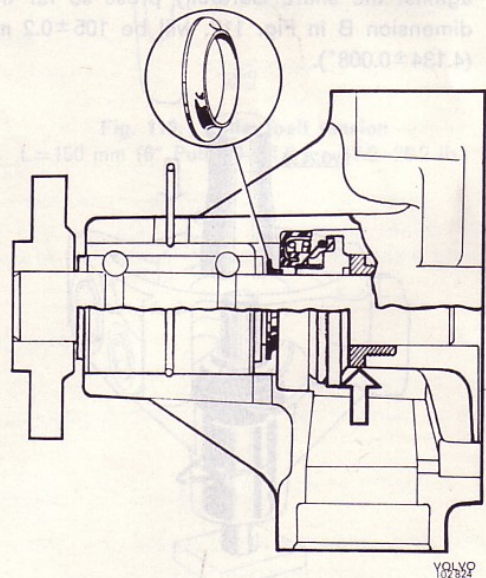
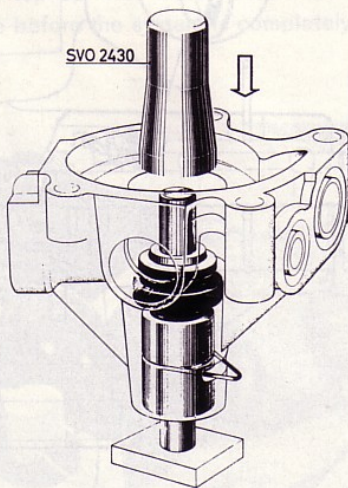

Fig. 114. Location of the oilslinger
Fig. 115. Fitting the seal ring
2. Fit the oilslinger, see Fig. 114 for its location. Fit the seal ring with drift SVO 2430, see Fig. 115. Coat the contact surface of the carbon washer against the impeller with molybdenum disulphide mixed in mineral oil SAE 30. The molybdenum disulphide should be completely dry before the washer is fitted.